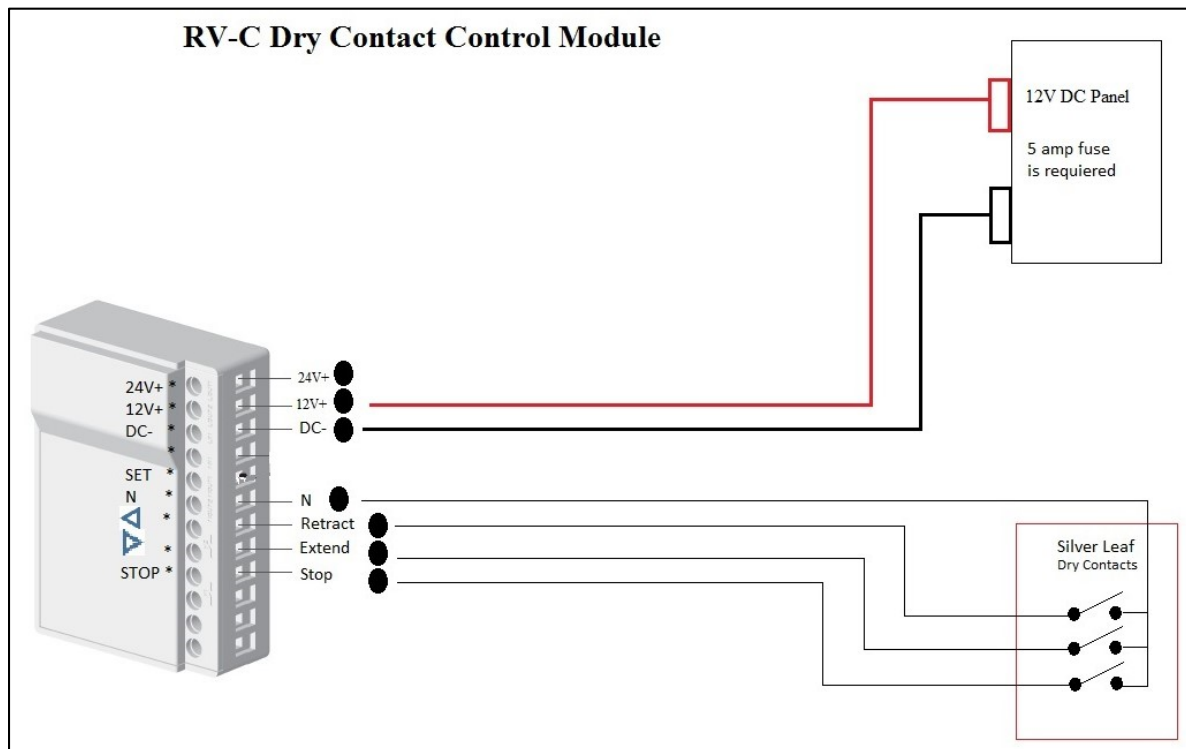

Fig.1
- a. Connect the Dry Contact Control Module (GC1149A) to 12 Volts DC (Fig.1)